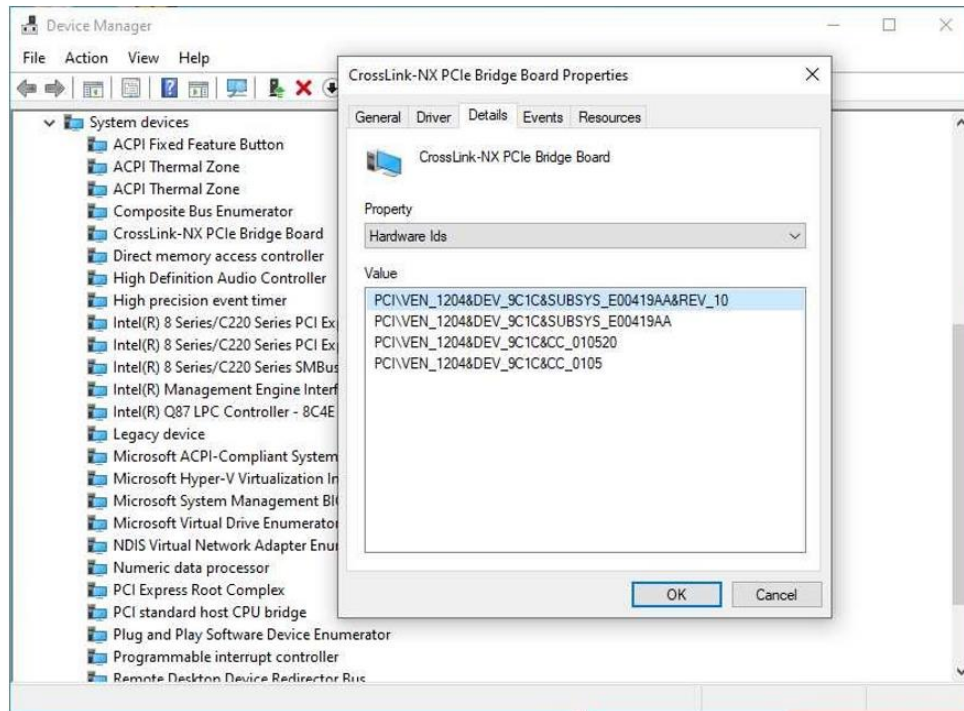

Figure 3.33. Hardware IDs of CrossLink-NX Colorbar Demo Device
- a. For CrossLink-NX devices, the Hardware IDs of the Base System Device for the Colorbar Demo is `PCI\VEN_1204&DEV_9C1C&SUBSYS_E00419AA` as shown in Figure 3.33.